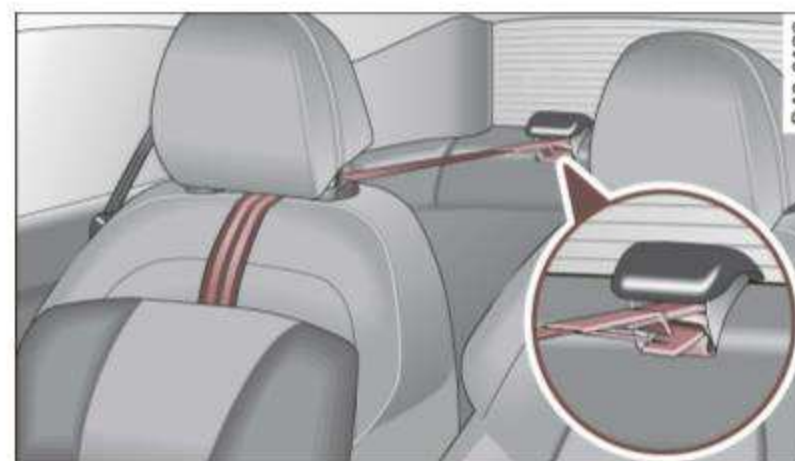

Fig. 111 Tether strap: Proper mounting and mounting
- Tilt the recess flap up to expose the anchor bracket ⇒ fig. 111.